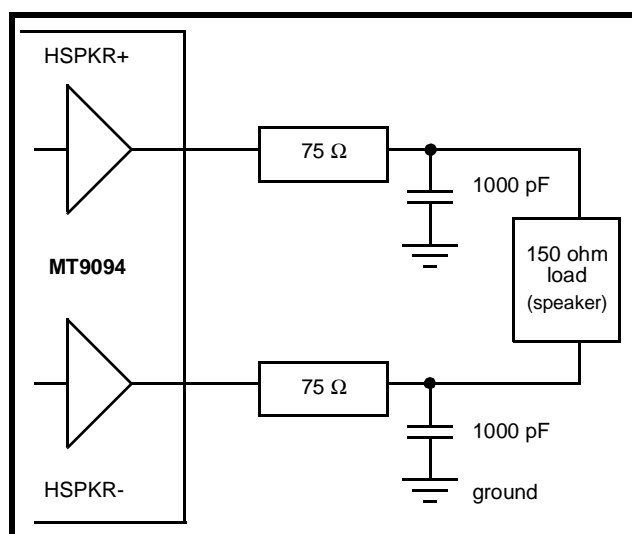

Figure 4 - Handset Speaker Driver
- ◆ The handset speaker outputs (receiver), pins HSPKR+/HSPKR-. This internally compensated, fully differential output driver is capable of driving the load shown in Figure 4. This output is enabled/disabled by the HSPKR EN bit residing in the Transducer Control Register (address 0Eh). The nominal handset receive path gain may be adjusted to either -12.3dB (suggested for μ -Law) or -9.7dB (suggested for A-Law). Control of this gain is provided by the RxA/ \bar{u} control bit (General Control Register, address 0Fh). This gain adjustment is in addition to the programmable gain provided by the receive filter and DSP.